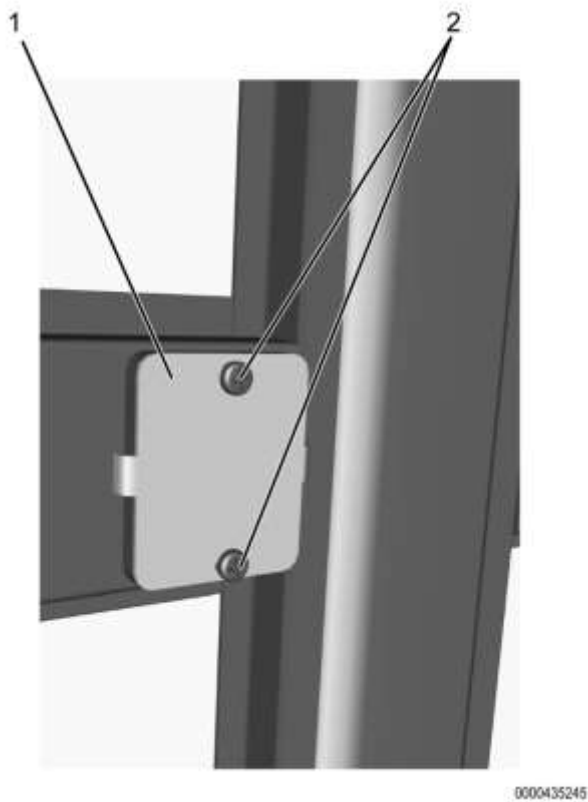

Figure 1. Vandal Lock Cover
6. Remove cover screws (Figure 1, Item 2) and cover (Figure 1, Item 1). Set aside for reuse.